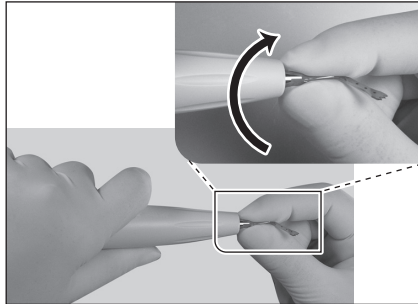

Fig.19
- 1) First, lightly screw in the Tip with your hands (Fig. 19).